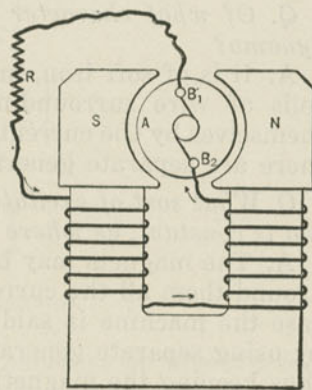

Fig. 408. Series Wound.
A. To shunt off a portion of the main current to do the excitation. This may be done either (1) by dividing the current, as it leaves the armature, into two branches, one for the magnets and the other for the external circuit (Fig. 408); or (2) by dividing the current into two branches, one of fine wire of high resistance, which goes around the magnets only; the other of larger wire which not only forms the external circuit, but also goes round the magnet.
*A. (1) Arc and (2) incandescent.*